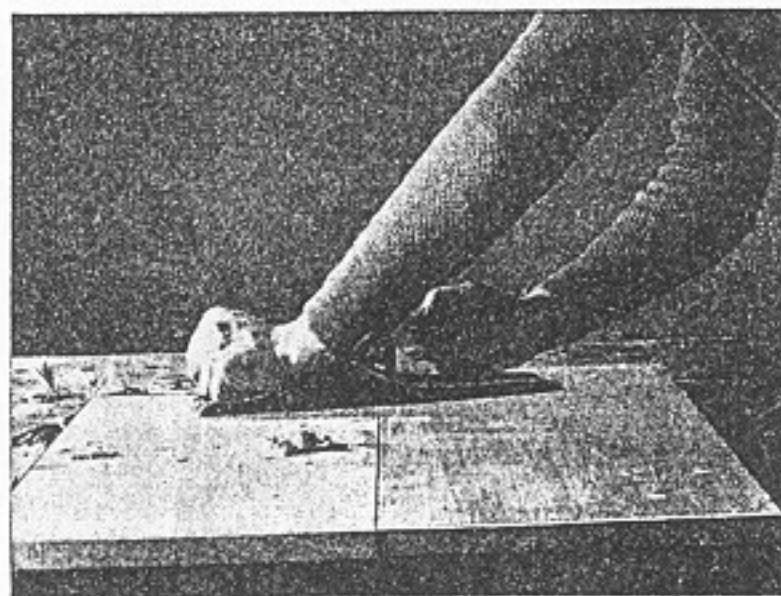

Fig. 94. Planing across the grain.
12. If a surface is made up of several boards glued together with the grain running in opposite directions, it is advisable to plane across the grain until it is flat and true (Fig. 94) and then finish with a cabinet scraper (Fig. 110, Art. 42).